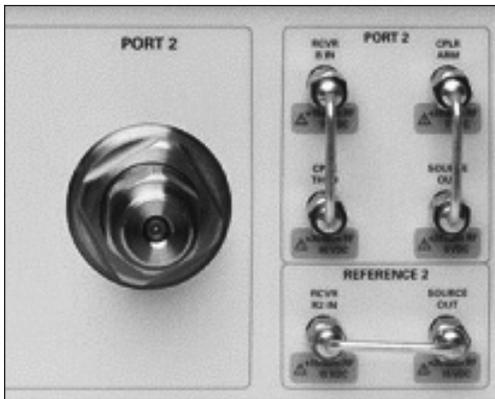

Figure 14. PNA Series front panel: port 2 and jumpers.
- When measuring frequencies less than 250 MHz, the signal-to-noise ratio decreases due to the roll-off of the port 2 coupler, which reduces dynamic range. To increase this signal-to-noise ratio, reverse the port 2 jumpers and bypass the coupler as shown in Figure 14. This will also reduce the dynamic range by an equal amount in the reverse direction, but since only forward measurements are made, this is not a problem.